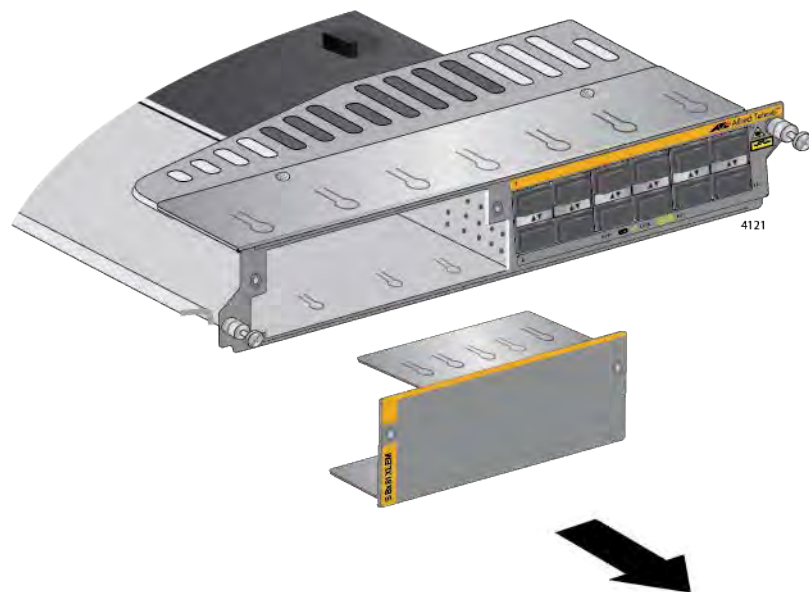

Figure 83. Removing the Blank Slot Cover from the AT-SBx81XLEM Line Card
5. Slide the blank slot cover from the slot. Refer to Figure 83 on page 156.